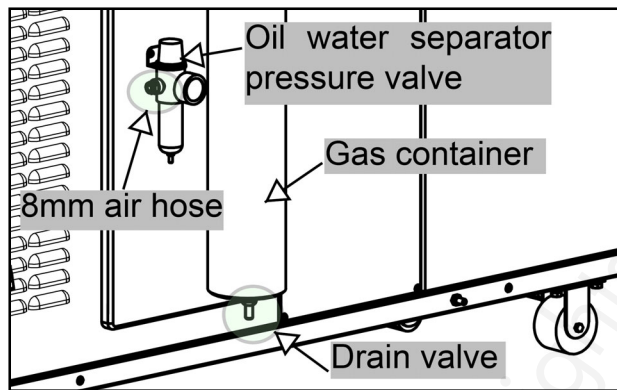

Figure 8
As shown in figure 8, follow the instructions below:
- Mount an 8 mm air hose to the position pointed in figure 8.